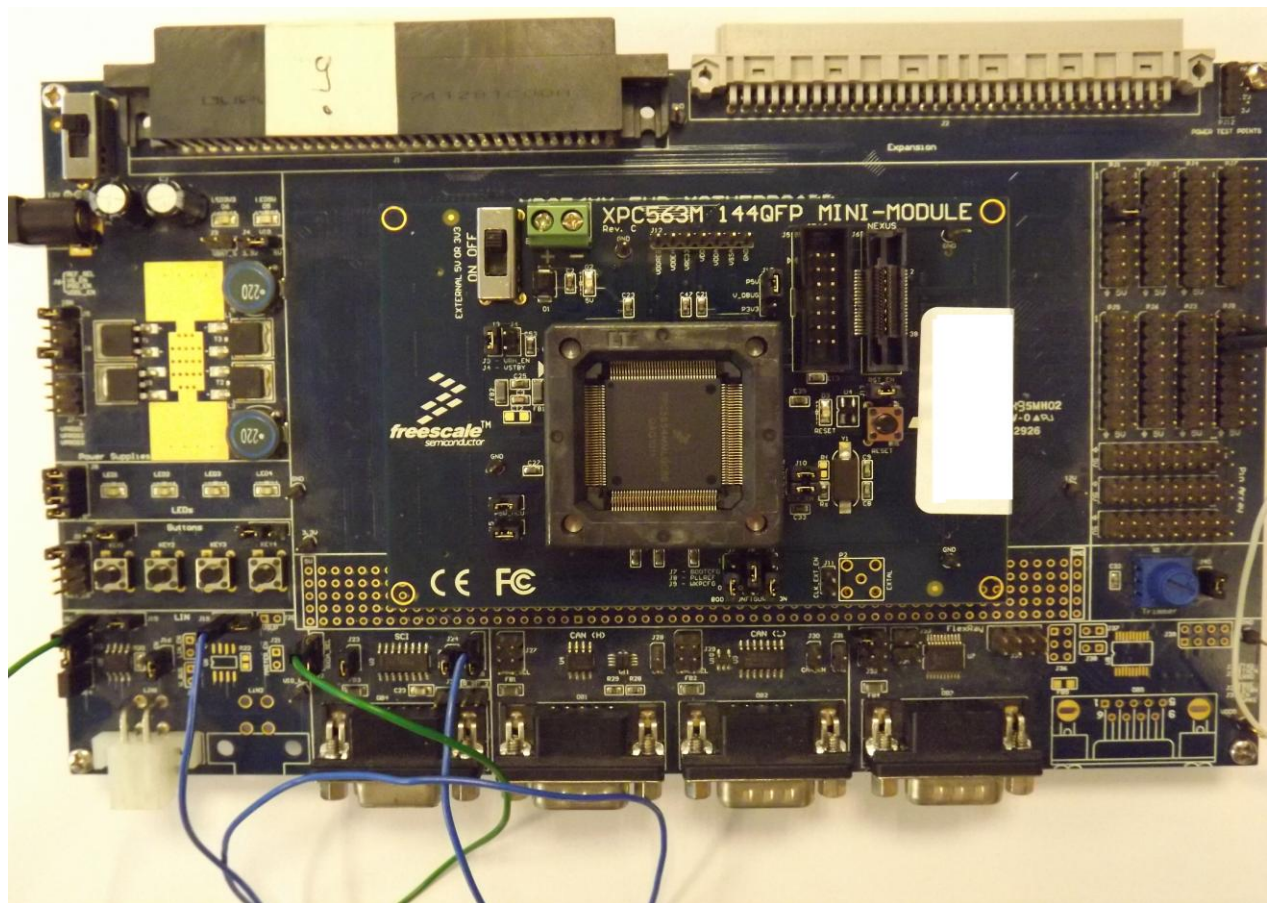
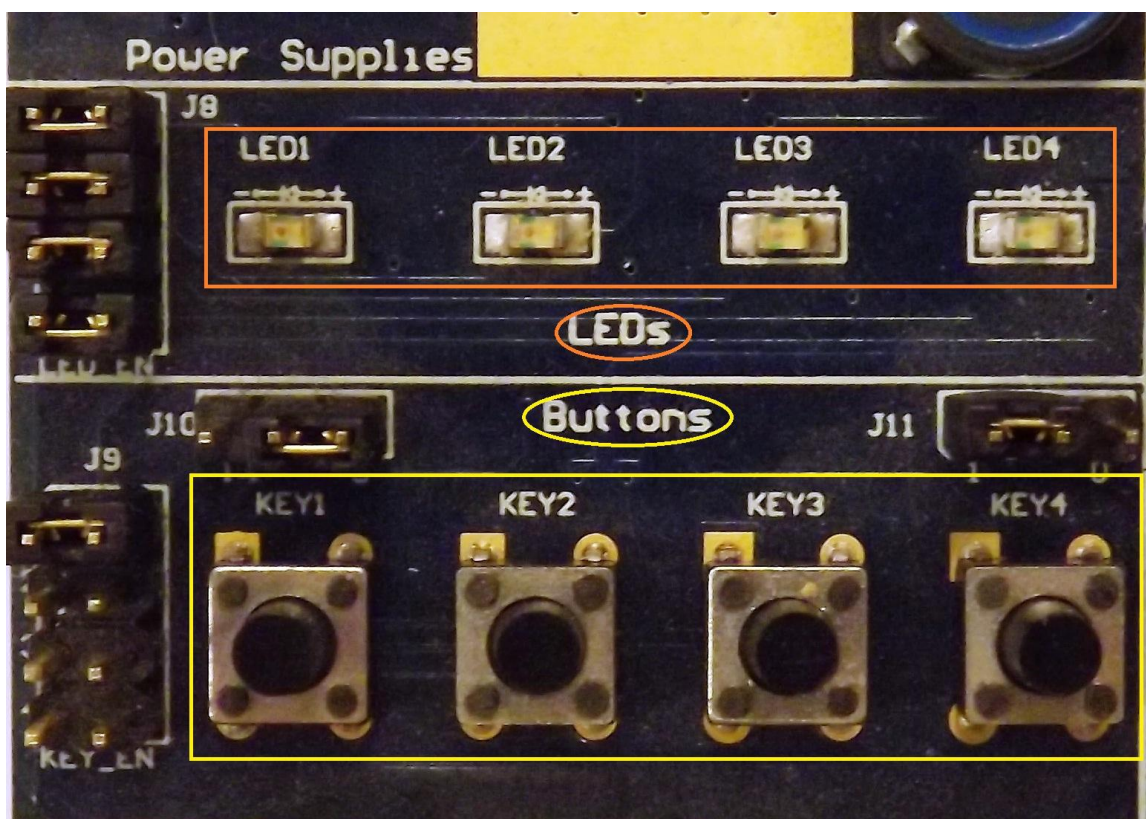

Figure 4-1. MPC563xM Evaluation Board
Figure 4-2. Buttons and LEDs Jumper Configuration
The MPC56xx evaluation board and jumper configuration are shown in Figure 4-1. MPC563xM Evaluation Board. Connected XPC563M_144QFP Mini-Module Board contains socket for MPC5634M in 144QFP footprint.
2. Check all jumper configurations as shown in Figure 4-1. MPC563xM Evaluation Board and Figure 4-2. Buttons and LEDs Jumper Configuration